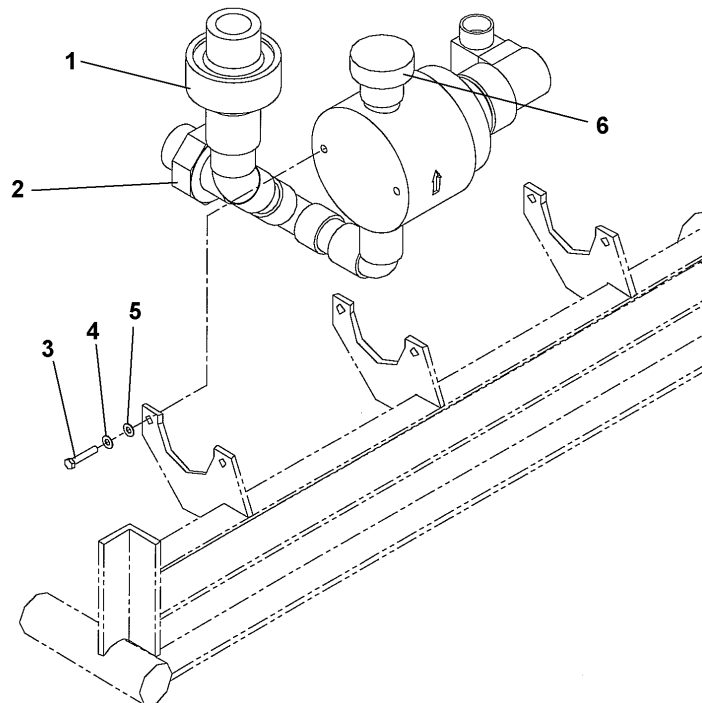

Figure 11. Fast Flush Piping.
3. Remove screws (3), lock washers (4) and washers (5) from solenoid valve support. See Figure 11.
3. Inspect the check valve by removing the union (1) and checking the rubber diaphragm inside. See Figure 11.
1. Refer to Figure 11 for this piping.
4. Fasten the solenoid valves with screws (3), lock washers (4) and washers (5).